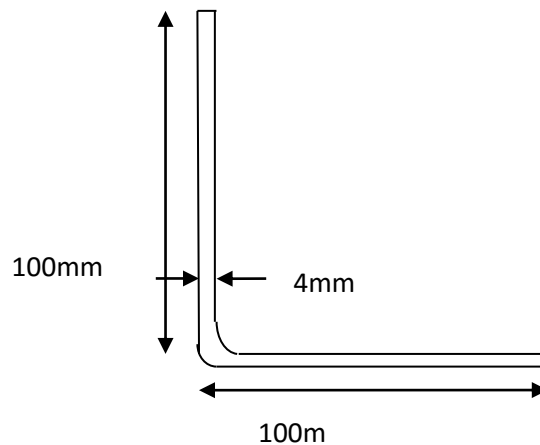

Fig 2
8. Compute the allowable load on the pinned end light gauge steel strut shown in Fig 2 of 2.4 m length. The column consists of channel section. Take  $f_y=206$  N/mm2.